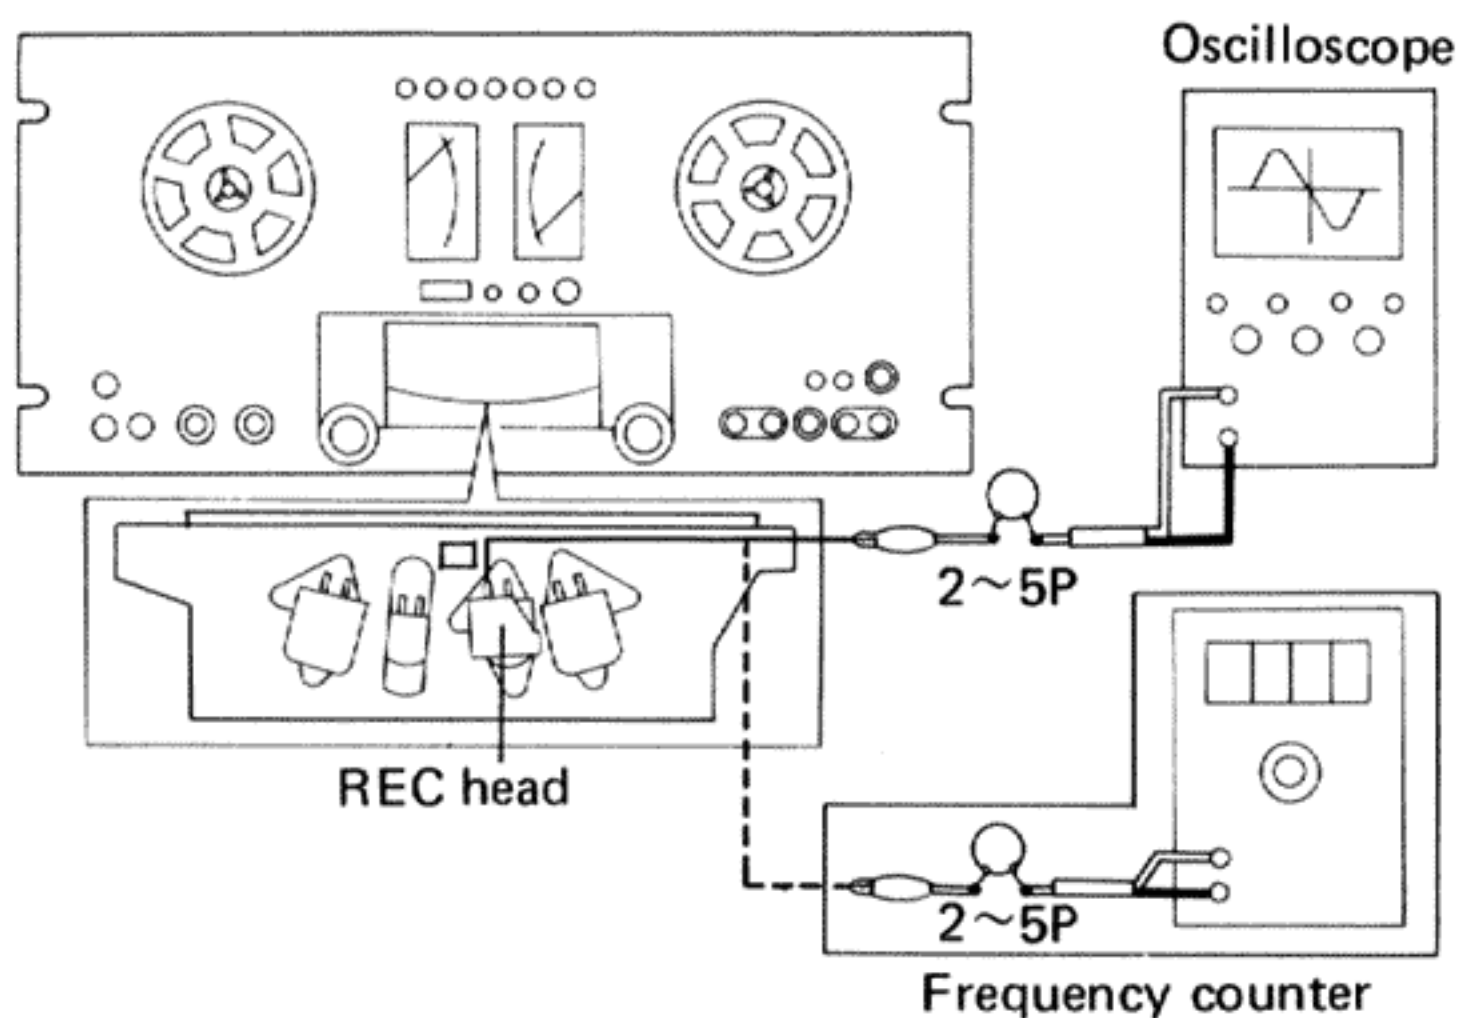

Fig. 34
1. Connect an oscilloscope or frequency counter to the L (R) channel side of the record head through a 2 ~ 5pF capacitor (Fig. 34).
3. Push the L (R) side MODE switch.